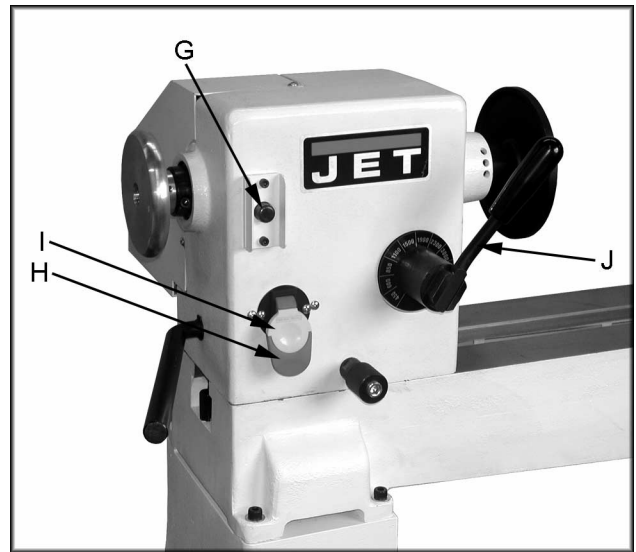

Fig. 5
- G. **Headstock Spindle Lock:** (G, Fig. 5)
- H. **Headstock On/Off Switch:** (H, Fig.5)
- I. **Headstock On/Off Switch Key:** Remove key (I, Fig. 5) when in the "OFF" position. The switch will not work until key is reinstalled.
- J. **Headstock Speed Selector:** (J, Fig. 5)